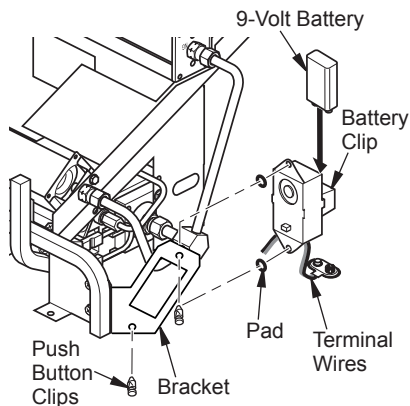

Figure 22 - Installing Remote Receiver
8. Install remote receiver into receiver bracket using pads and push button clips provided with receiver (see Figure 22).
2. Locate the battery clip mounted on the back of the receiver (see Figure 22, page 17).